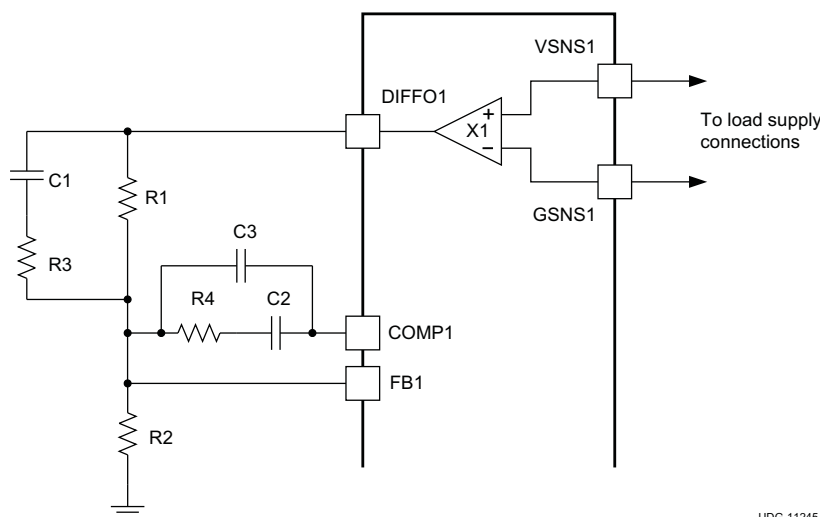

Figure 9. Setting the Output Voltage
The output voltage is set in a very similar to the way to a traditional analog controller using a voltage divider from the output to the feedback (FB) pin. The output voltage must be divided down to the nominal reference voltage of 600mV. Figure 9 shows the typical connections for the controller. The voltage at the load can be sensed using the unity gain differential voltage sense amplifier. This provides better load regulation for output voltages lower than 5V nominal (see electrical specifications for the maximum output voltage of the differential sense amplifier). For output voltages above this level, connect the output voltage directly to the junction of R1 and C1, leave DIFFO1 open and do not connect the VSNS1 pin to the output voltage. If desired the differential amplifier may also be used elsewhere in the overall system as a voltage buffer, provided the electrical specifications are not exceeded.
The components in Figure 9 that determine the nominal output voltage are R1 and R2. R1 is normally chosen to make the feedback compensation values (R3, R4, C1, C2 and C3) come close to readily available standard values. R2 is then calculated in Equation 1.
The nominal output voltage of the converter can be adjusted using the VREF_TRIM command. See the VREF_TRIM command description for the format of this command as used in the TPS40422. The adjustment range is between -20% and +10% from the nominal output voltage. The VREF_TRIM command is typically used to trim the final output voltage of the converter without relying on high precision resistors being used in Figure 9. The resolution of the adjustment is 7 bits, with a resulting minimum step size of approximately 0.4%. Note that the output margining is accomplished using this same 7 bit structure so the total combined deviation from the nominal output for margining and VREF_TRIM is remains limited to between -20% and +10%. Exceeding this range is not supported.